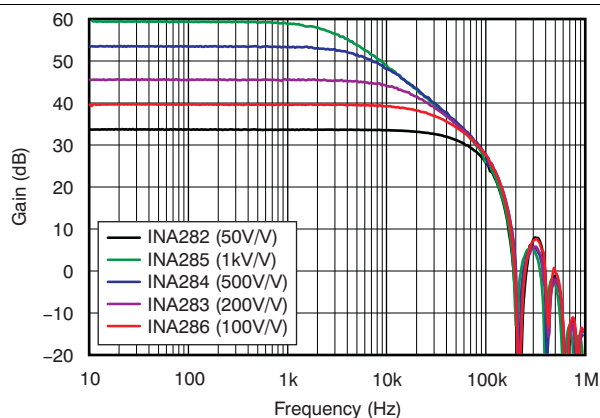
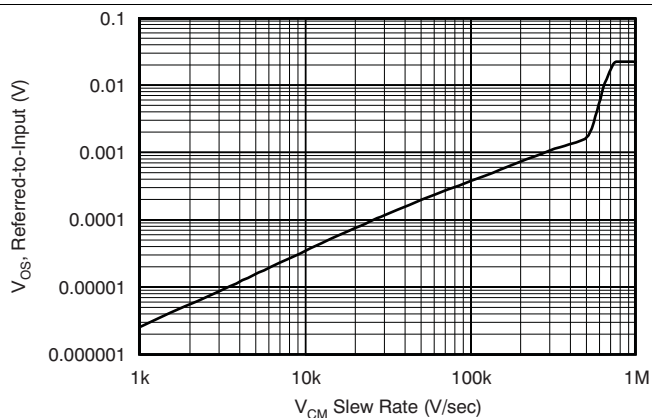
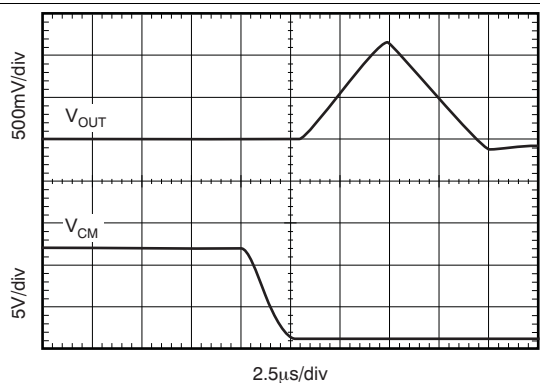
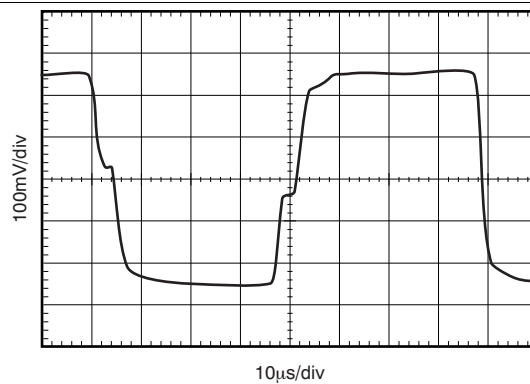

Figure 1. Gain vs Frequency
Figure 4. INA282 Common-Mode Slew Rate Induced Offset
Figure 21. 12-V Common-Mode Step Response
Figure 28. 500-mV Step Response
(7) See typical characteristic graph Figure 1 and the Effective Bandwidth section.
The extremely high dc CMRR of the INA28x family results from the switched-capacitor input structure. Because of this architecture, the INA28x exhibits discrete time-system behaviors, as illustrated in the *Gain vs Frequency* curve of Figure 1 and the *Step Response* curves of Figure 21 through Figure 28. The response to a step input depends in part on the phase of the internal INA28x clock when the input step occurs. It is possible to overload the input amplifier with a rapid change in input common-mode voltage (see Figure 4). Errors as a result of common-mode voltage steps or overload situations typically disappear within 15 μ s after the disturbance is removed.